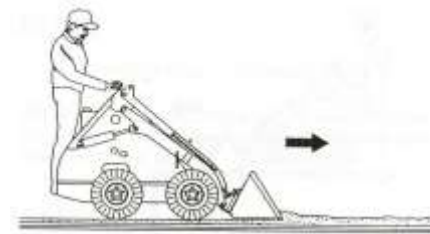

Figure 13
2. Drive Machine forward slowly and continue to tilt bucket forward until it enters the ground to desired depth and then tilt it back a small amount to keep an even depth, as show in Figure 13.